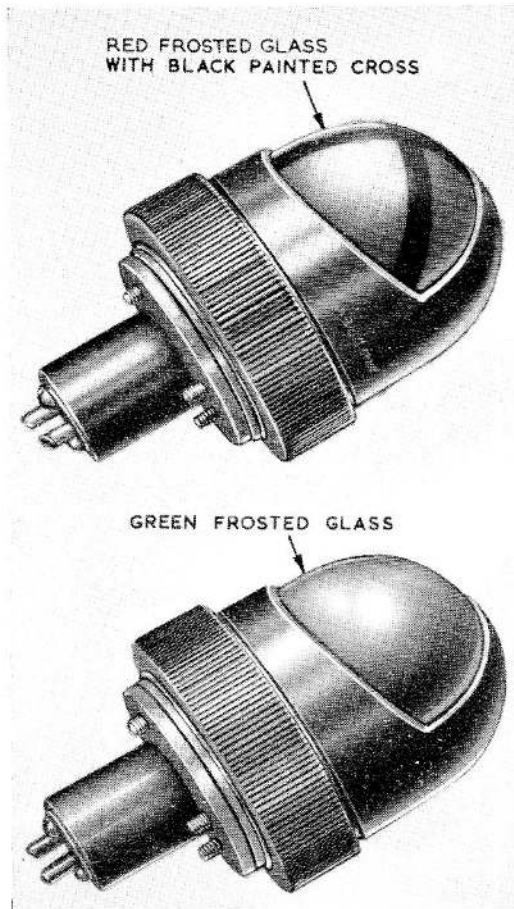

Fig. 1. Lamps, paratroop, signal
2. These lamps (fig. 1) are an adaptation of the navigation lamp, Type A, described in Chap. 12. They are identical in construction the essential difference being that of the colour of the glass as mentioned in para. 1. In addition the glass in these lamps is frosted externally.
5. The glass is a complete dome, the outer surface being frosted, the red glass having a black cross painted on its surface, as shown in fig. 1. The glass is partially masked by the screen cap, which is cut away, allowing an aperture of 110 deg. to the vertical. A small hole opposite the screen aperture gives an indication if the lamp is alight.